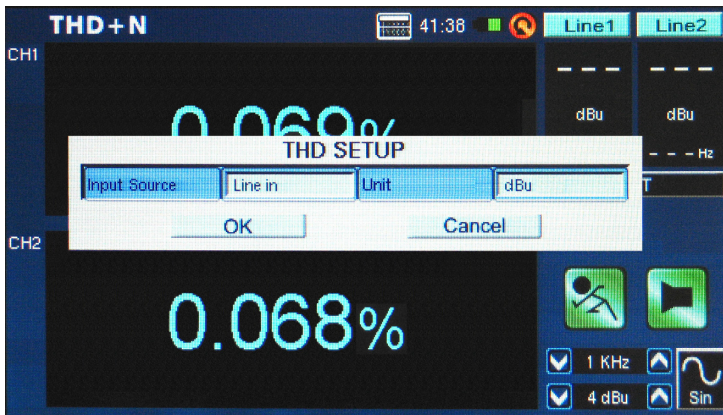

figure 44
2. Set the input source to "Line in" and select OK to continue (figure 44).